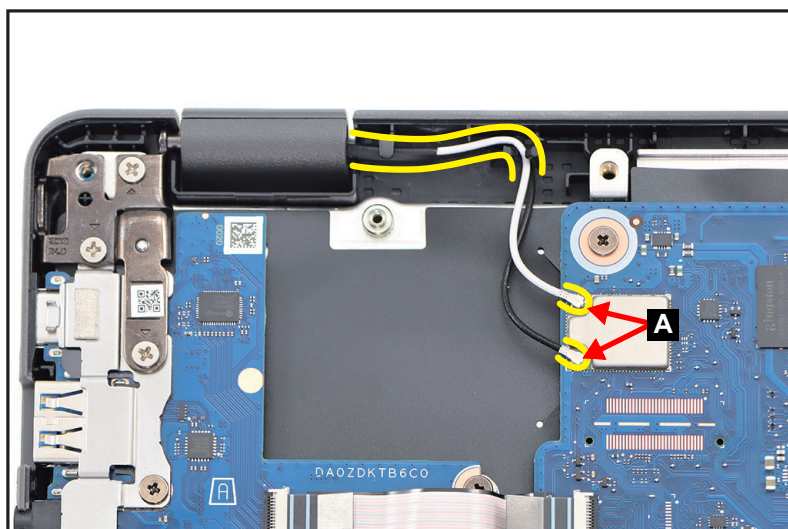

Figure 3-18. LCD Module Removal
1. Disconnect the WLAN antennas cables from the WLAN module connectors (A) (Figure 3-18).